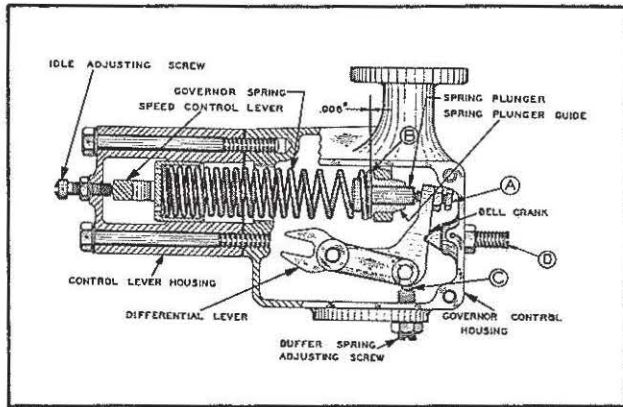

FIG. 10
2. Before installing the control housing cover assembly, make the following test of the governor. Fig. 10.